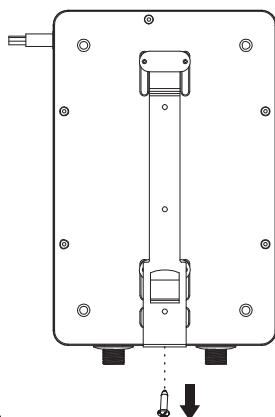

Fig. 2
2. Use a screwdriver to remove the screws and separate the water heater from the bracket. (Fig.2)